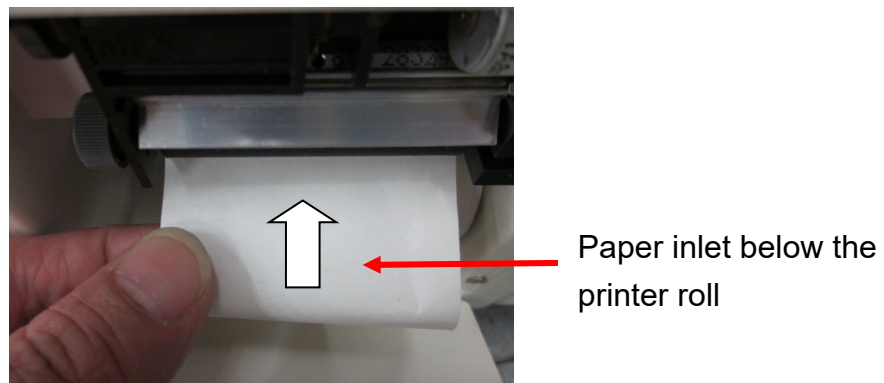
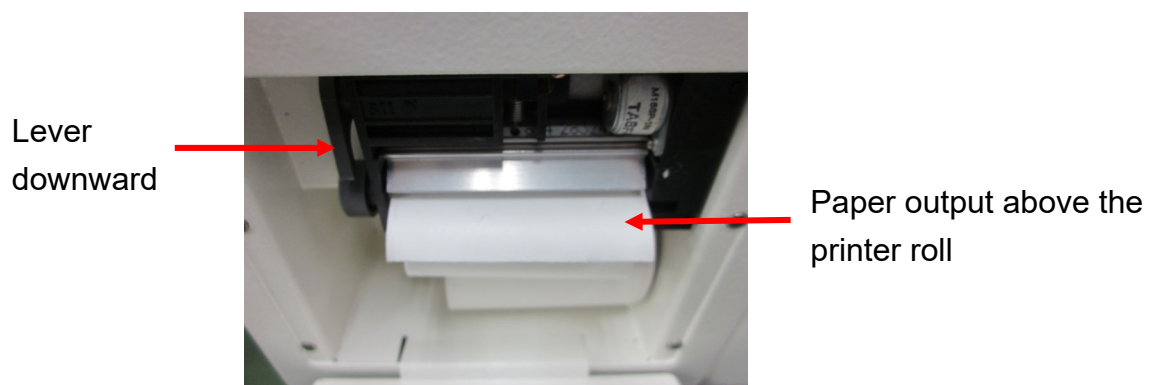

Figure 140
Figure 141
- D. Replace with a new one thermal paper in the compartment, and position the lever in the “downward position” as shown in Figure 141. Locate the thermal paper near to the sensing inlet (Figure 140), the thermal paper will be detected and then fed automatically (See Figure 141)